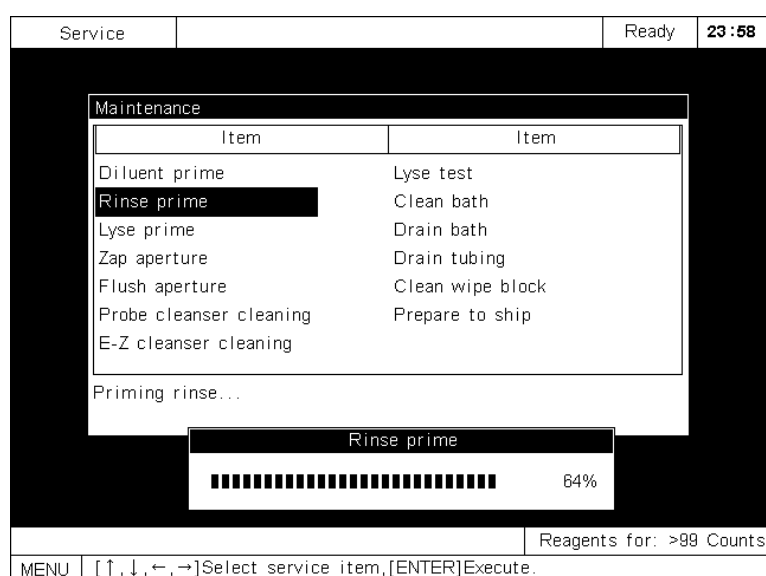

Figure 8-4 Priming tubing with rinse
- Press [ENTER] to prime the tubing with rinse and the priming progress will be displayed at the bottom of the screen, as Figure 8-4 shows.